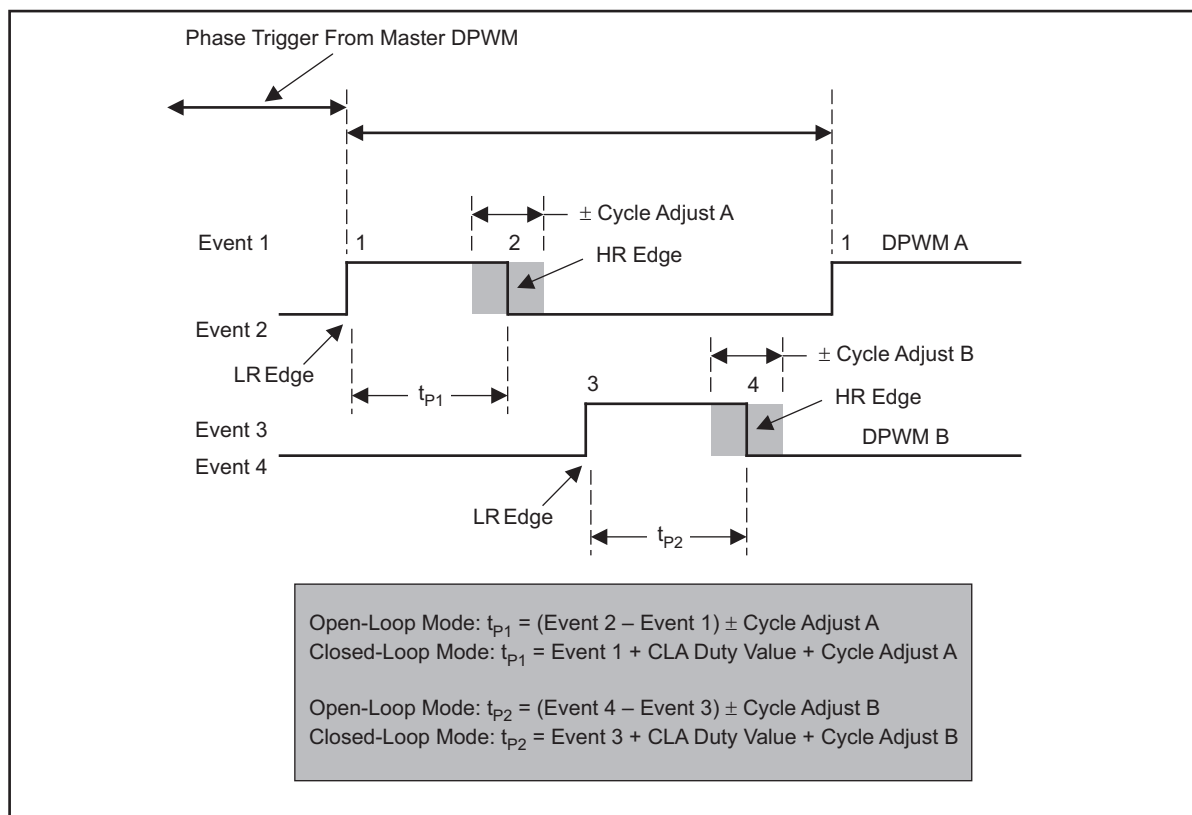

Figure 11. Multi-Output Mode – DPWM Timing Diagram
- While applying a –ve cycle adjust to DPWM B, the minimum on-pulse width (calculated value of t_{p2} in Figure 11) should be limited to 0. A –ve value for the DPWM B on-pulse width is not valid.